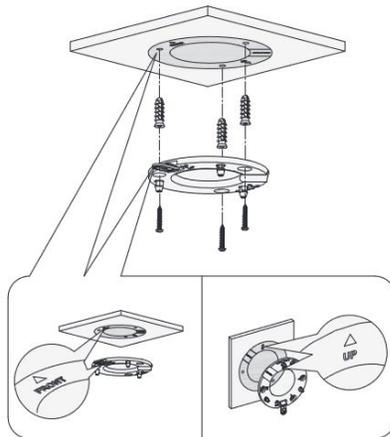

Figure 2-2
**Step 2** Install the base mount, lining up with the locking tab position. See Figure 2-2.